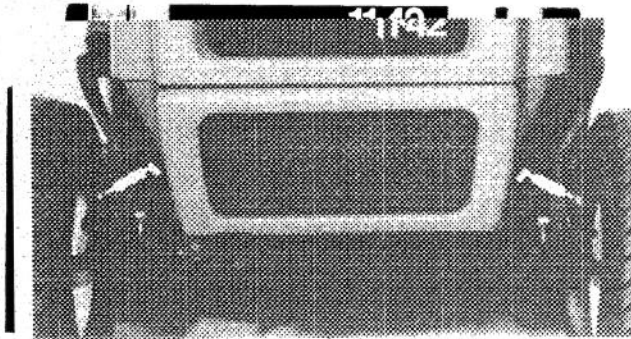

Figure 19
1. Wipe grease fittings on spindles and wheels (Fig. 19, 20) with a clean rag. If there is paint on front of fittings, scrape it off.
2. Lubricate both axle spindles w/No. 2 general purpose grease (Fig. 19). Continue to pump grease until it oozes out the spindle. Wipe up any excess grease.